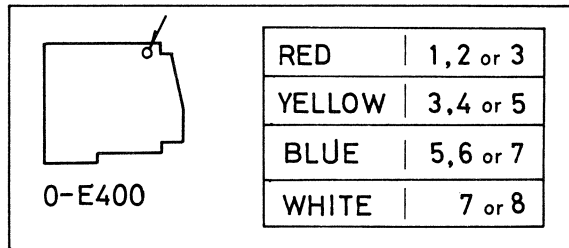

FIG 3-1 E200-400 MATCHING
E400 has a color marking of ①Red ②Yellow ③Blue ④White at the spot shown in Fig3-1, and E200 has a digit marking of from 1 to 8, according to their operating characteristics.
E200 and E400 should be used in combination shown in Fig3-1.